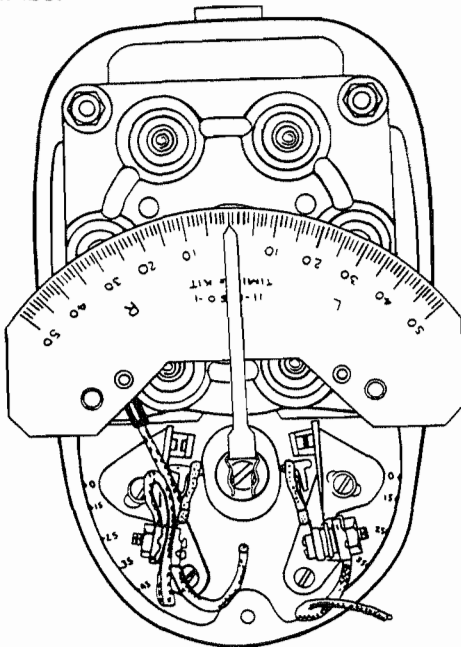
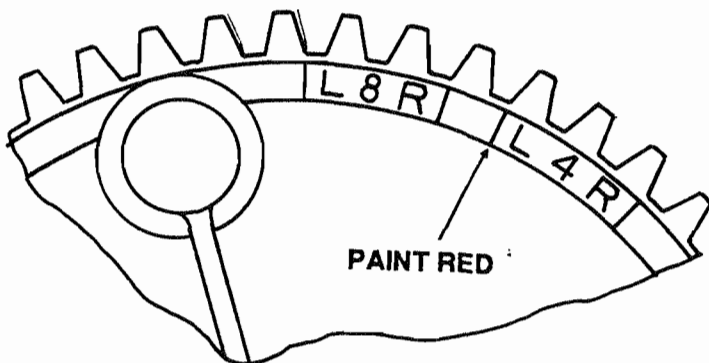
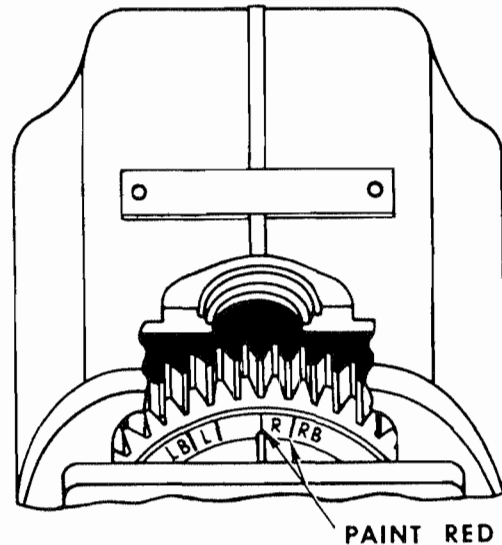

Figure 907. 11-8150-1 Timing Kit Installed on Magneto
Figure 909. Timing Marks Painted for 4 Cylinder CCW Magneto
Figure 910. Alignment of Timing Marks on Distributor Gear - 6 Cylinder, no Retard Contacts, Right Hand Rotation
- D. Assemble two studs (16) in lower distributor block retention holes of housing (72). (Refer to Figure 907). Install the 11-8693 Timing Plate Assembly and the 11-8149 Pointer Assembly of the 11-8150-1 Timing Kit to breaker compartment of magneto. See Figure 910. Align pointer assembly with 0° mark on timing plate. Loosen adjusting knob of 11-8465 Rotor Holding Tool and turn rotating magnet in normal direction of rotation until pointer indexes with respective E gap mark ( $15^\circ \pm 2^\circ$  on 4 and 6 cylinder or  $12^\circ \pm 1^\circ$  on 8 cylinder magnetos). Tighten adjusting knob of 11-8465 Tool and remove the 11-8149 Pointer Assembly from magneto. Using the 11-9110-1 Timing Light, adjust main contact points to just open by rotating cam. This adjustment shall be made by rotating cam in opposite direction of normal rotating magnet rotation a few degrees beyond point where contacts close. Then rotate cam in normal direction of rotating magnet rotation until contacts just open. While holding cam in this exact position, push cam on magnet shaft as far as possible with fingers. Extreme care must be exercised in this operation. If cam adjustment is changed in the slightest degree, the timing of the magneto will be thrown off. Do not drive cam on shaft with a mallet or other instrument, to do so can harm bearings. Tighten screw (31), thereby drawing cam down evenly and tightly. Torque screw to 21 to 25 in.-lbs. Loosen the 11-8465 Rotor Holding Tool adjusting knob and return rotating magnet to neutral position. Re-install the 11-8149 Pointer Assembly over 0° mark on timing plate. Rotate magnet shaft in normal direction of rotation and check for opening of main contact points at E gap setting ( $15^\circ \pm 2^\circ$  on 4 and 6 cylinder or  $12^\circ \pm 1^\circ$  on 8 cylinder magnetos) using 11-9110-1 Timing light (light should go out at  $15^\circ \pm 2^\circ$  or  $12^\circ \pm 1^\circ$ ).
- A. Connect 11-9110-1 Timing Light between main contact assembly (30) and ground. Set rotating magnet (61) in keyway-up neutral position. Slowly turn rotating magnet (61) in normal direction of rotation until timing light goes out. This is No. 1 firing position (E gap). Tighten adjusting knob of 11-8465 Rotor Holding Tool.
- B. All 4 and 8 cylinder magneto distributor gears (25) incorporate four timing marks, an L for counterclockwise rotating magnet rotation and R for clockwise rotating magnet rotation for 4 cylinder, and a separate L and R for 8 cylinder magnetos. Six cylinder magneto distributor gears (25) incorporate four timing marks, L and LB for counterclockwise rotating magnet rotation, and R and RB for clockwise rotating magnet rotation. Before installing distributor gear in magneto, paint applicable mark, depending on direction of rotation and number of cylinders, with red Dykem. As an example, a 4 cylinder counterclockwise rotating magneto would have the L (4 cyl.) mark painted red (See Figure 909) while a 6 cylinder clockwise rotating magneto would have both the R and RB marks painted red (See Figure 910).
- (4) All other 6 cylinder types, the timing rib on the distributor block must lie between the L and LB or the R and RB marks on the gear and should be nearer to the L or R mark, depending on magneto rotation. (See Figure 910).